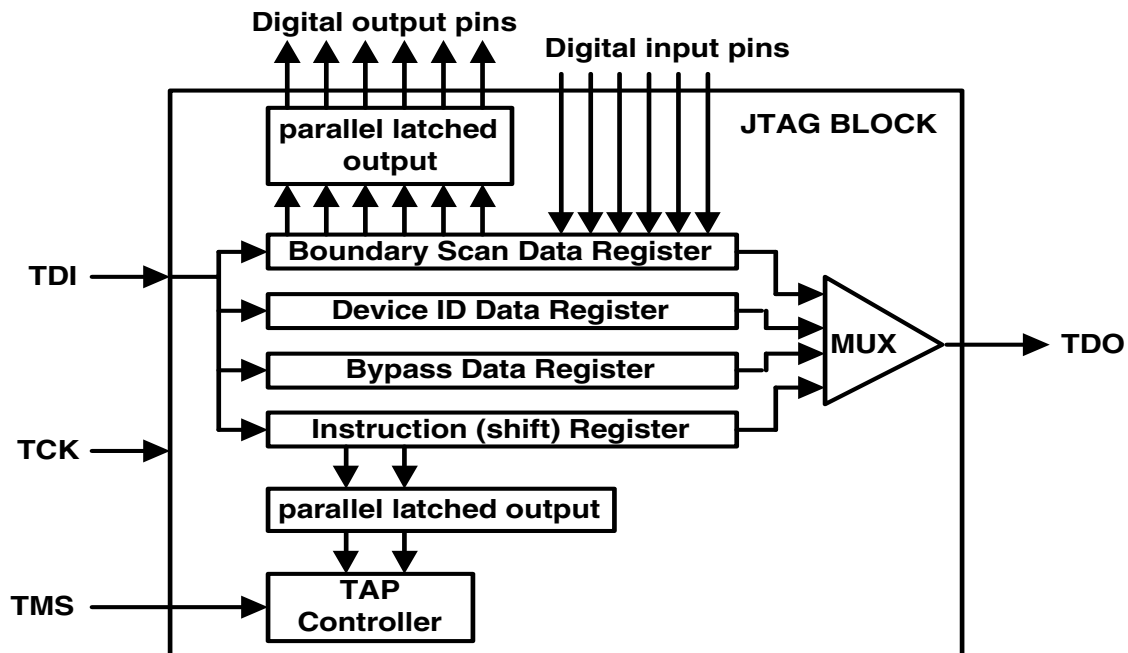

Figure 15. Test Access Port Architecture
The CS61884 supports the IEEE Boundary Scan Specification as described in the IEEE 1149.1 standards. A Test Access Port (TAP) is provided that consists of the TAP controller, the instruction register (IR), by-pass register (BPR), device ID register (IDR), the boundary scan register (BSR), and the 5 standard pins ( $\overline{\text{TRST}}$ , TCK, TMS, TDI, and TDO). A block diagram of the test access port is shown in Figure 15. The test clock input (TCK) is used to sample input data on TDI, and shift output data through TDO. The TMS input is used to step the TAP controller through its various states.